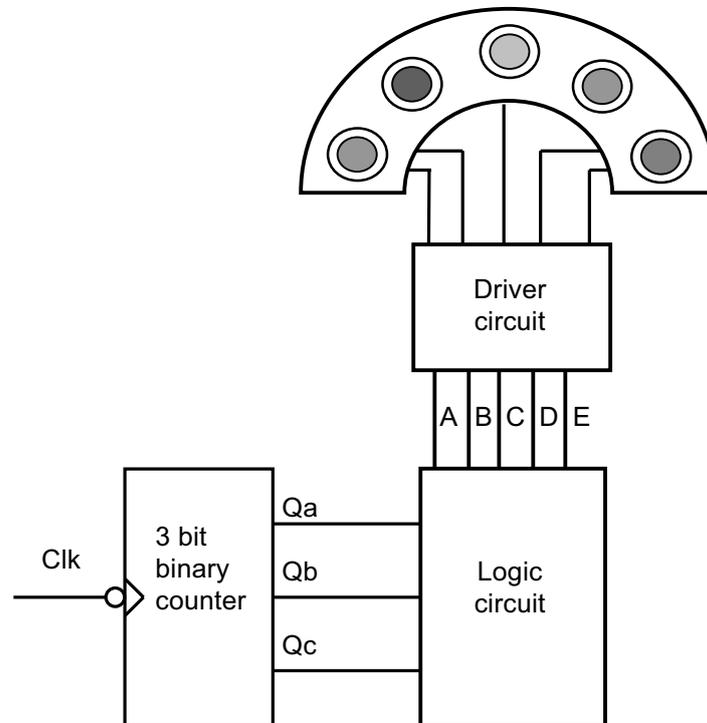

Fig. 2(a)
- 2 The display board for a theme park ride consists of 5 coloured 12 volt lamps, A, B, C, D and E, which are arranged in a row as shown in **Fig. 2(a)**. The lamps which flash with an eye-catching sequence are controlled by the outputs from a logic circuit. As the outputs of the counter Q_a , Q_b and Q_c are incremented from 000 the lamps are to be switched on in the following sequence, A, AB, ABC, BCD, CDE, DE, E, all off.